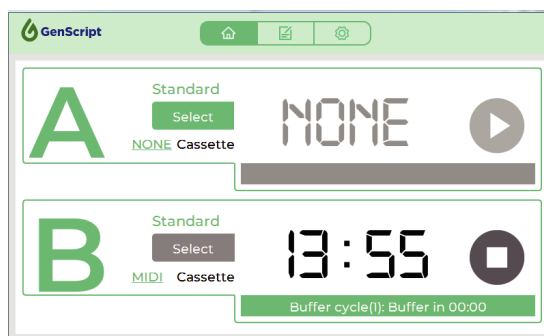

Figure 19. Start the transfer
13. Press  for the corresponding channel to initiate the transfer method. The screen will display a countdown timer as shown in Figure 19.